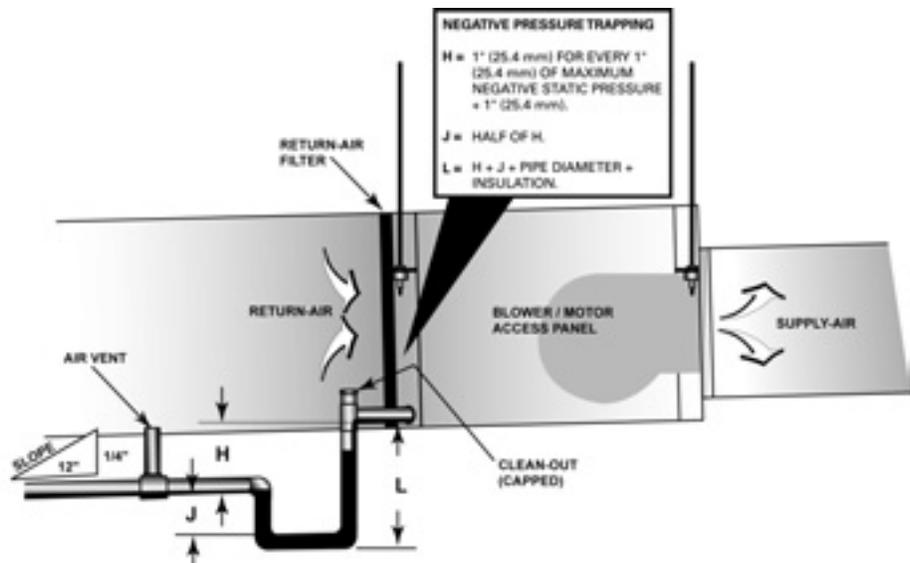

Figure 4: Negative pressure trap
*In a properly trapping system, when condensate forms during normal operation, the water level in the trap rises until there is a constant flow (Figure 4). It is imperative to maintain water in the trap and not allow the trap to dry out during heating season. Keeping the trap primed at all times will enable the water to flow properly.*